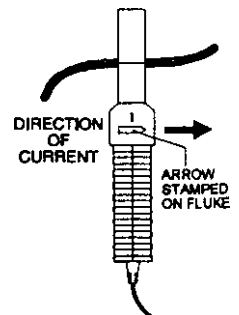

Figure 6
- 601-7. The next two (2) **measurements** must be done while the UPS is running on **inverter**. Remove AC input power and let the unit **run** for approximately one (1) **minute** before you go on.
- 601-10. Display parameter 6 (I Batt) by pressing **[DISPLAY] [6] [ENTER]**. Using the clamp-on AC/DC probe, set **the digital multimeter** for **mV**. Measure at the negative battery cable with the probe The arrows stamped on the current probe must match **the** flow of current you are measuring. (See Figure 6.) If the result is differed from the value **displayed** for parameter 6, change the value of parameter 6 by pressing **[PROGRAM]**, entering your measured value, and pressing **[ENTER]**.